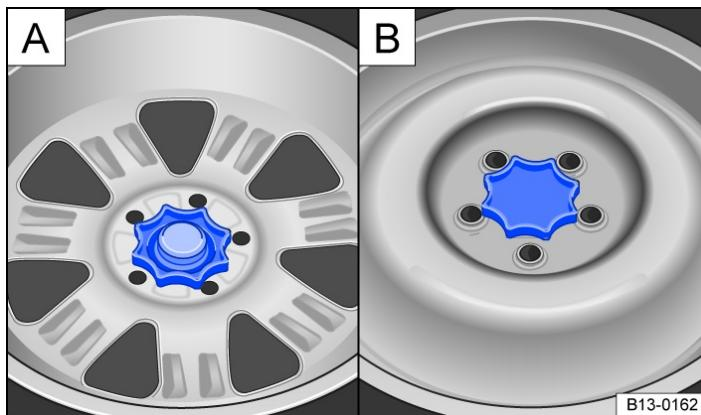

Fig. 1 In luggage compartment: **A**: handwheel for securing spare wheel, **B**: handwheel for securing temporary spare wheel.
- Fully unscrew the handwheel in the middle of the spare wheel → *Fig. 1* **A** or temporary spare wheel **B** anticlockwise.